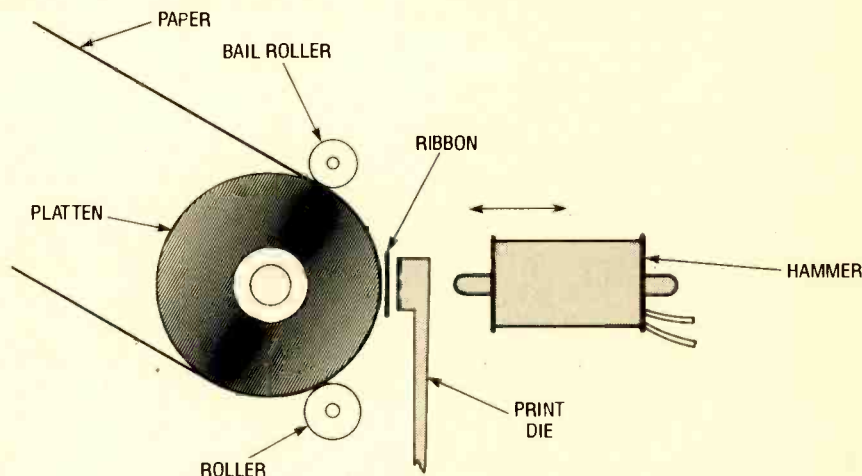

Fig. 2. This is a typical wheel-type print head assembly. The print die is a daisy-wheel type.
**Wheel Type.** Wheel printers, as the name implies, work in much the same way as conventional typewriters—characters are pre-molded onto a support structure to form what is called a die. When a character is to be printed, logic signals to a motor will move the desired character die into place. Then, a firing signal from the controlling logic will trigger a solenoid (or hammer) that will push the die forward against an inked ribbon to form an impression on the paper (see Fig. 2). There are several different types of dies used by wheel printers, but the three most typical are the daisy wheel, the ball type, and the thimble wheel.
**Demonstration Circuit.** Figure 2 shows a counter circuit in which a 74LS374 octal D-type latch has been placed to form a pseudo random-number generator. You’ll recognize that circuit as a modified version of the circuit used in the decade-counter exercise. As before, the 7490 decade counter has been connected to provide a conventional binary-coded decimal or BCD (8-4-2-1) output signal (the CP1 clock-input terminal is connected to the  $\bar{Q}_0$  input) and the clocking signal is applied to the device’s CP0 input.
**Latch Exercise.** Assemble the circuit shown in Fig. 2 on your breadboard. If you have not disassembled the circuit from the 1-1/2-Digit Counter exercise, all you’ll have to do is modify the circuit by removing the 7476 flip-flop and DISP2 from the circuit, and then connecting a 74374 between the 7490 decade counter and the 7448 7-segment common-cathode decoder/driver. Once you’ve wired up the circuit apply power and, using your logic pulser, apply a pulse to the clock input of the 7490. Observe the inputs and outputs of the 74LS374 with a logic probe. Record the results (repeat once or twice).